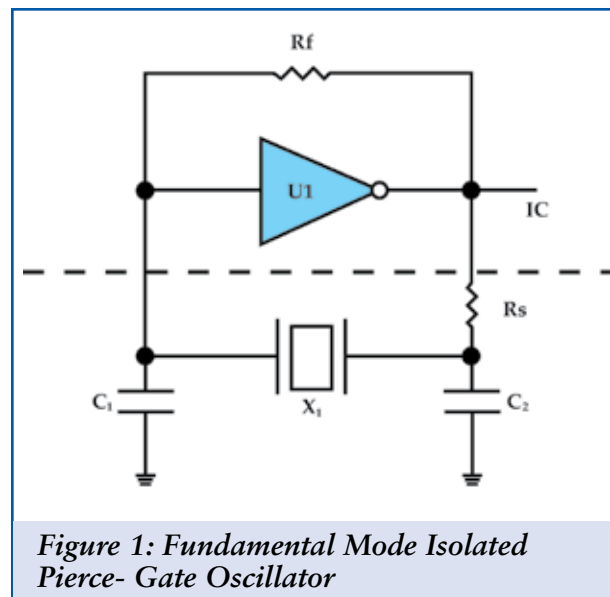

Figure 1: Fundamental Mode Isolated Pierce-Gate Oscillator
The most common gate oscillator in use today is by far the Pierce-Gate shown in Figure 1. Its popularity stems from the fact that the digital inverter, U1, is usually included in the microprocessor or ASIC the designer selects. In effect, the oscillator cell U1 is free!
The crystal X1 in **Figure 1** needs to be
- The feedback resistor  $R_s$  is not internal as shown in **Figure 1**.